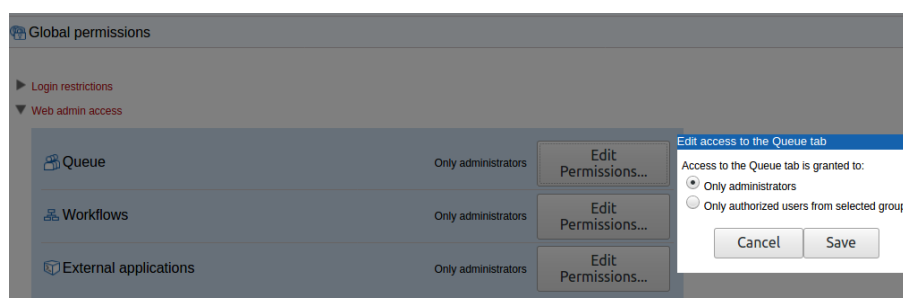

Figure 5.6: Access can be granted to members of non-admin groups to the Queue, Workflows and External applications tabs in the web administrative interface.
- **Algorithms** Restrict access to specific tools to specified groups (figure 5.6).
To edit permissions, click on the relevant heading and then click on the relevant **Edit Permissions** button in the expanded list (figure 5.6). In the edit dialog, if the option **Only authorized users from selected groups**, is selected, a list of groups is shown, allowing access to be granted or removed, as relevant.